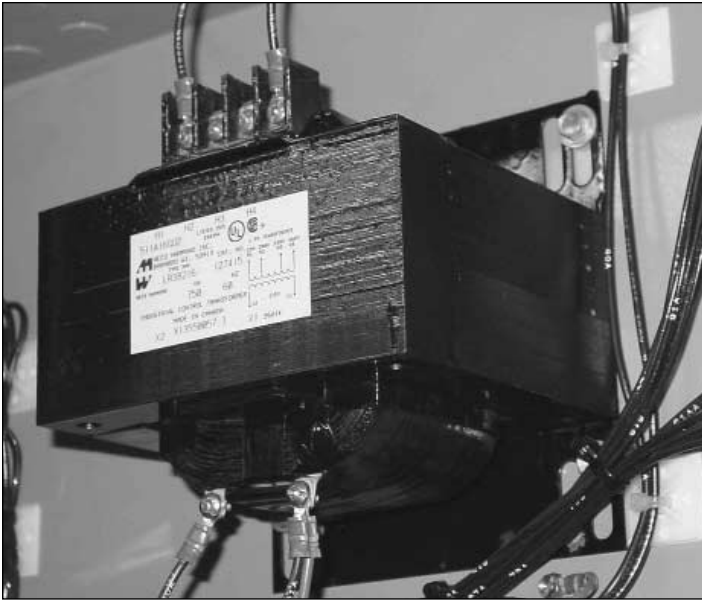

FIGURE 4.15 750 VA Transformer.
Transformers come in a wide variety of sizes, from the very small (as used in control systems) to very large (to drop kilovolt line voltages down to the 480 or 120 VAC used in the building). Transformers are rated according to their maximum power-handling capacity. This value is given in volt-amperes (VA). A typical low voltage transformer used for an actuator might have a rating in the 100 VA range (Figure 4.15) while a large, whole-building transformer is in the 1000 kVA range or larger (Figure 4.16).